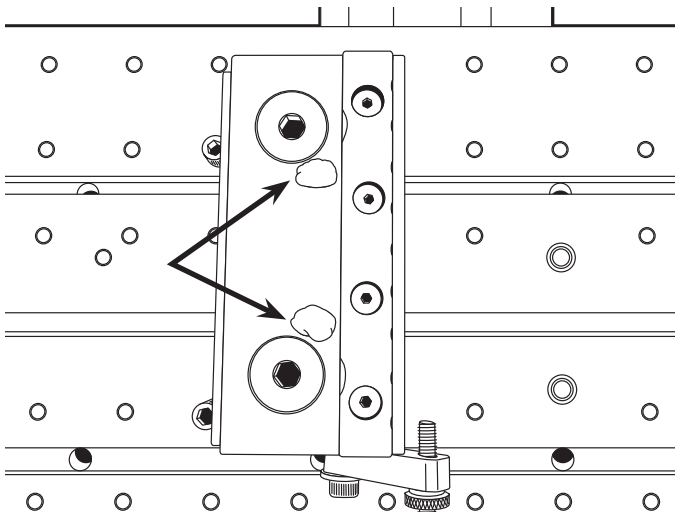

FIGURE 20—Place cotton wads in the T-nut screw slots as indicated by the arrows.
3. The access slot that is in the top jaw for the T-nut screw will fill up with small chips which may be hard to remove. We had designed a plug for the slot to keep the chips out, but found that this created other problems. We suggest that you place a wad of cotton from a cotton ball into each access slot before you begin machining. This is an inexpensive and easy solution to the chip build up problem. Whenever you need to move your vise fixture, just pull out the cotton along with the chips and loosen the T-nut screws (see Figure 20).